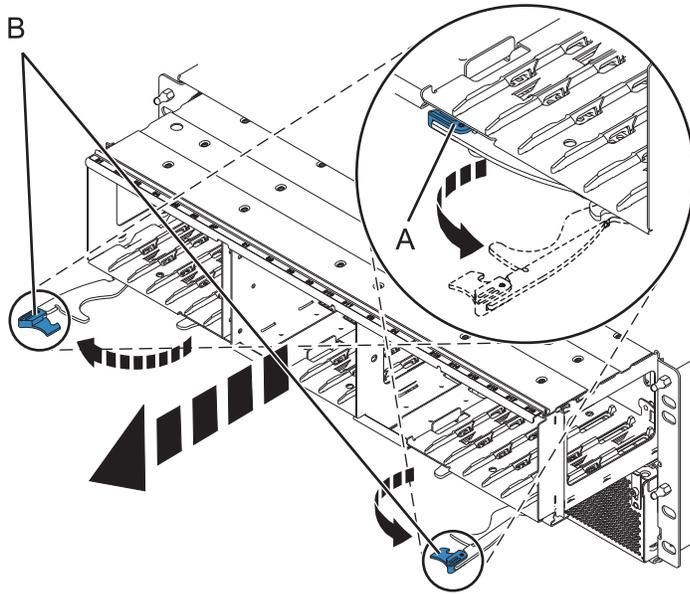

Figure 79. Removing the backplane from the enclosure
5. Remove the backplane as shown in Figure 79 on page 132.